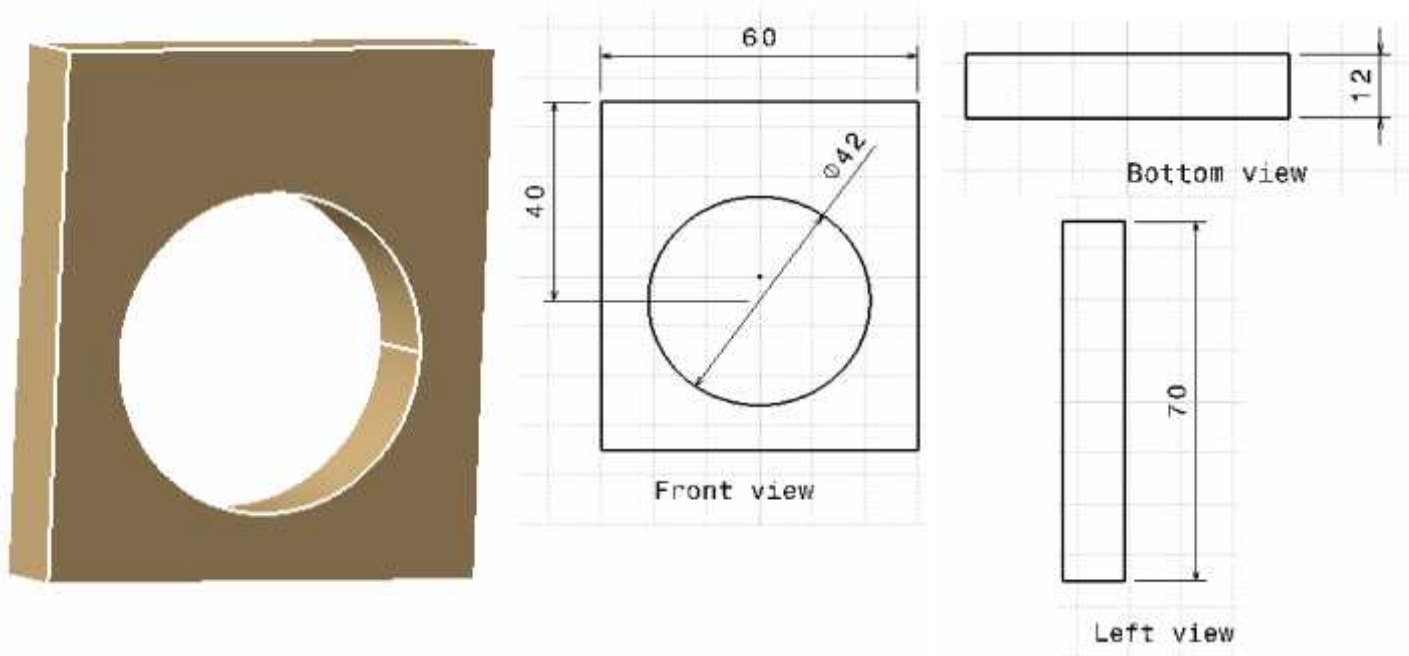

Figure 3.4 The Housing of Ball Bearings (all dimensions are in mm)
3. *Housing of Ball Bearing*: these mechanical parts were designed and manufactured from rigid material (which is aluminum) to achieve the following: (see figure 3.4)